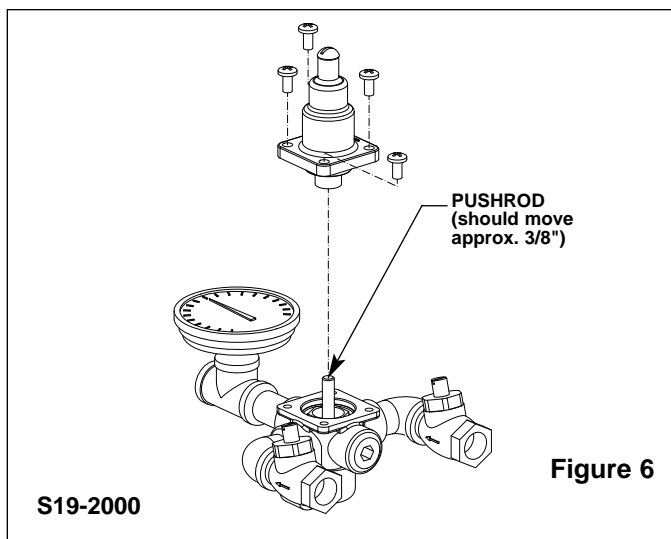

Figure 6
2. Push down on the pushrod (the pushrod should move approximately 3/8") (see Figure 6). If the movement is not as it should be, the piston is not moving freely and needs to be cleaned along with the piston liner. Clean the piston and liner following the method outlined below: